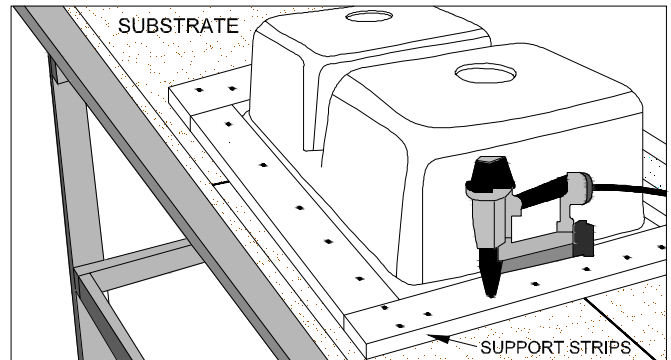

Figure 12A
- Place  $\frac{3}{4}$ " thick wood support strips around entire perimeter of sink flange. (FIG. 12A)